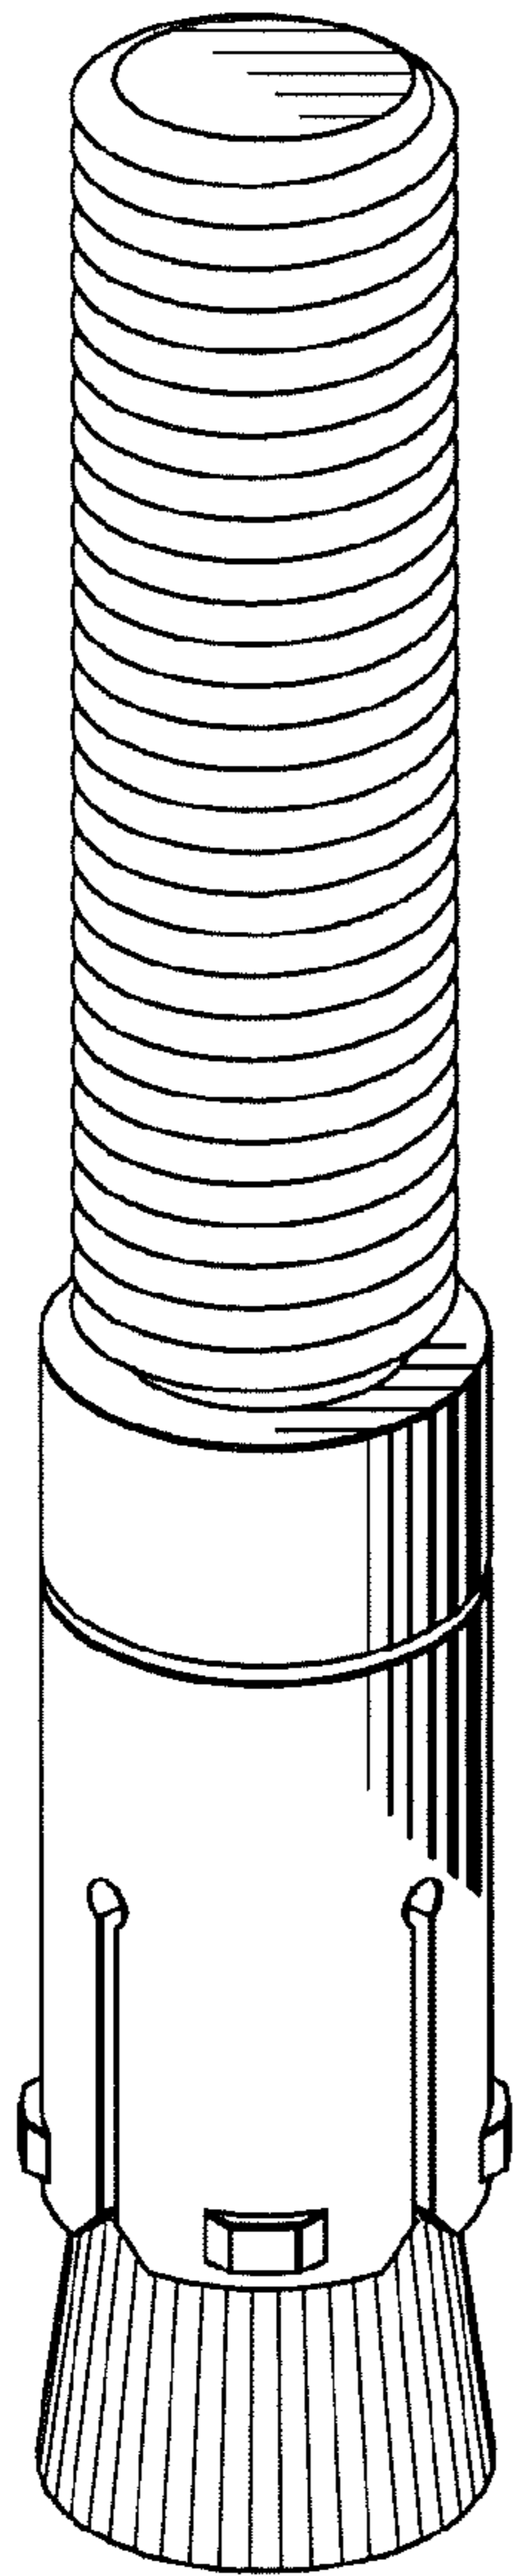

Fig. 15
- FIG. 15 is a top perspective view of the stud having longitudinal ridges;